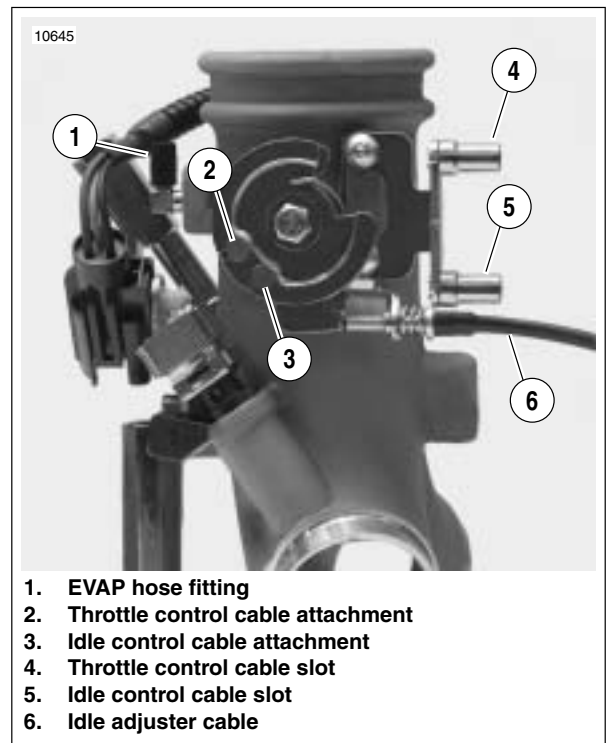

Figure 4-103. Throttle Cable Bracket (typical)
4. See Figure 4-103. On California models, pull EVAP hose from fitting (1).
9. Remove fuel rail fastener (1) that holds the fuel rail to the throttle body and manifold.